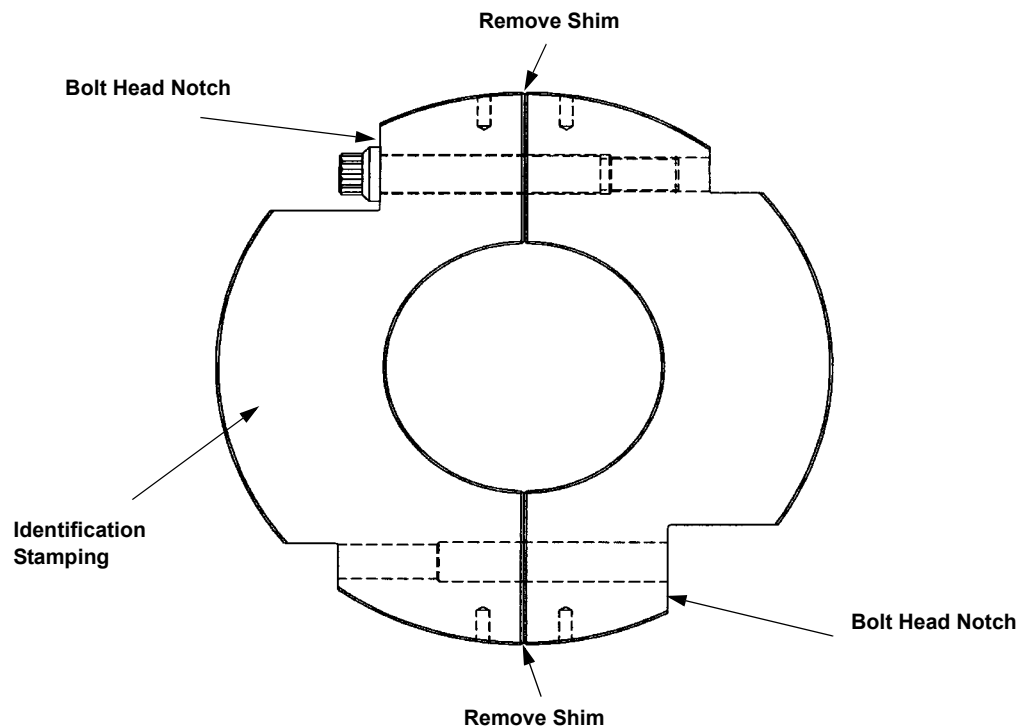

FIGURE 5-15: DETUNER DONUT - TYPICAL
2. A finished detuner will have a custom finished bore with identification stamping as shown in Figure 5-15: on page 5-25. The stamping includes part number, the instruction "mount this face toward coupling" on both halves, final bore dimensions and frame serial number (or crankshaft serial number and nominal crankshaft diameter). Verify that this information is on the detuner and that it correlates with the compressor and crankshaft. If this information is in question or missing, contact Ariel Engineering before proceeding. **Detuner donuts are not interchangeable for use on other crankshafts, including replacement crankshafts.**
7. For handling the detuners, an overhead crane is recommended. A forged steel eyebolt can be installed in one half of the detuner for easy handling by the overhead crane. The eyebolt should be installed in the side that is notched for the bolt head(s) as shown in Figure 5-15: on page 5-25. When a crane is not available, a second person is strongly recommended to help lift, lower into place and hold the detuner halves during installation.